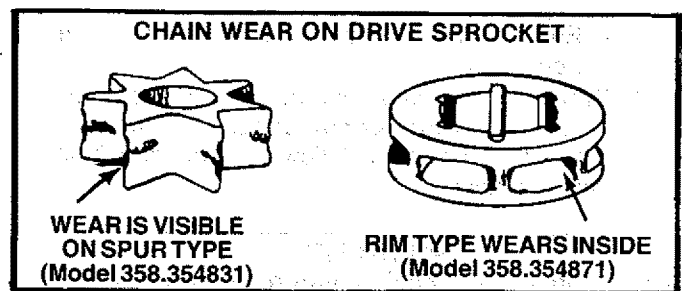

Figure 52
- Inspect the sprocket regularly for wear. A worn sprocket will make the chain run erratically and will shorten the life of the bar and chain. Figure 52.